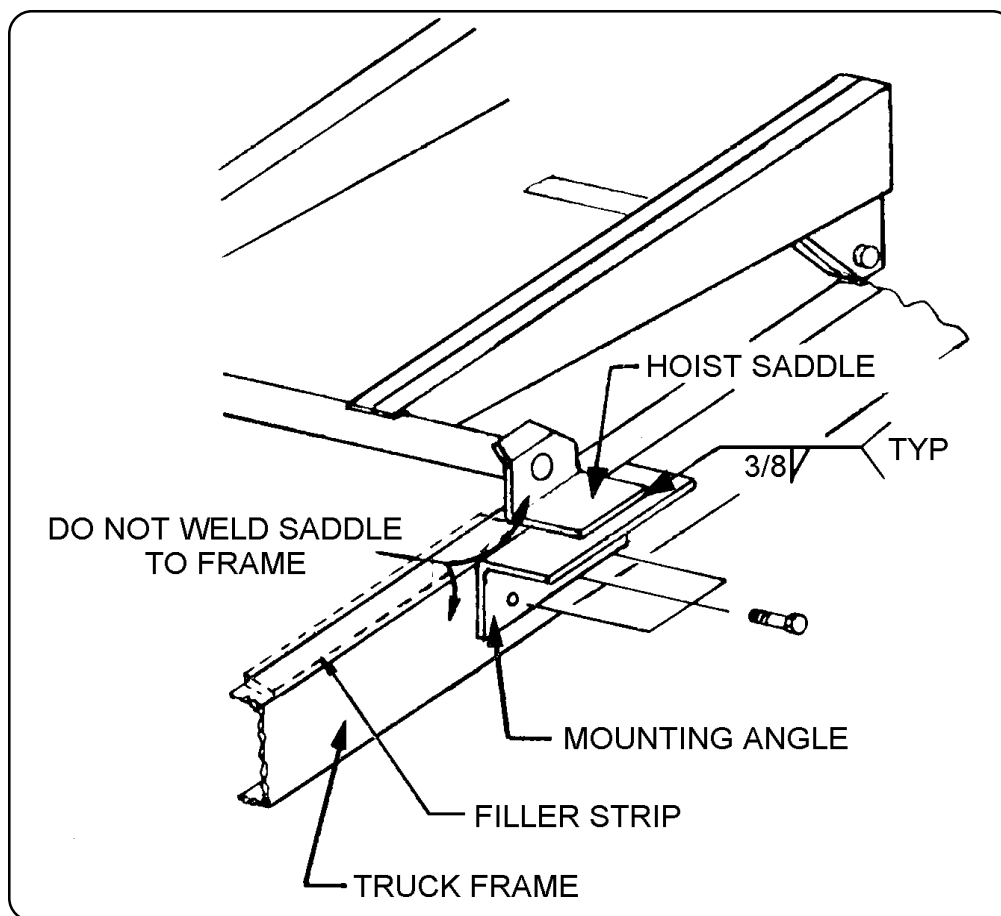

Figure 4 - Mounting Angle Assembly
- E. After the hoist is positioned, place the mounting angles (Figure 4) under each side of the hoist saddle and against the truck frame. Clamp securely in place. Drill through the frame (17/32") and install the mounting angle with three (3) 1/2" x 1-1/2" Grade 8 hex head cap screws, lock washers, and hex nuts (both sides).
- F. Weld each end of the hoist saddle to its mounting angle as shown in Figure 4. Note the welding symbols. Do not weld to the truck frame.
- I. Position and secure the filler strips (liner or sleeper) to the truck frame (Figure 4).